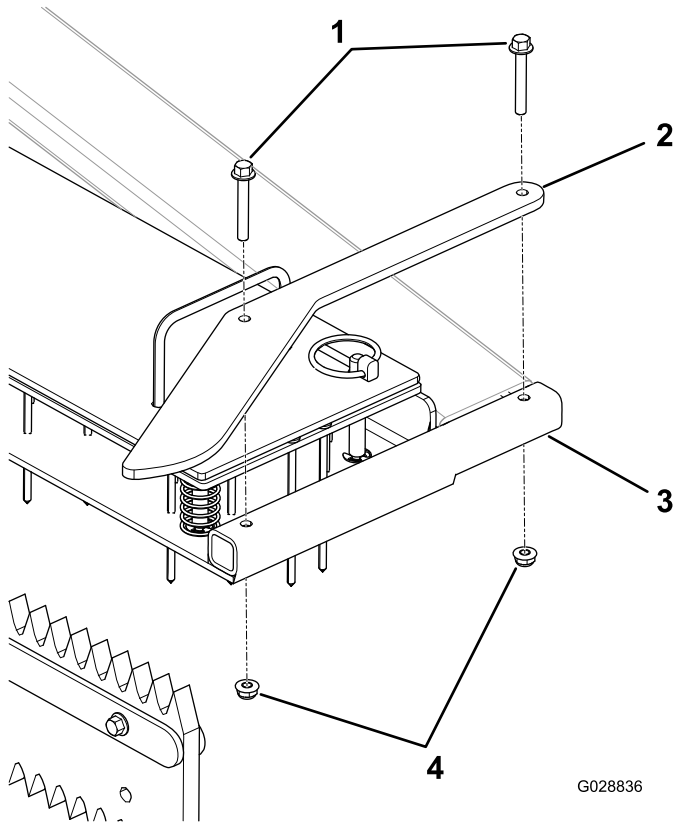

Figure 10
1. Align the holes in a side guard with the holes in the side of the frame of the nail drag as shown in Figure 10.
2. Secure the side guard with 2 screws and 2 locknuts (Figure 10).